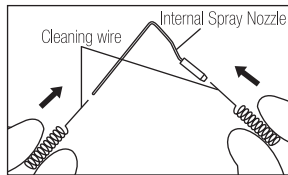

Fig. 13
- 1) Internally clean the Internal Spray Nozzle and/or the External Spray Nozzle by using Cleaning Wire. (Fig. 13,14)